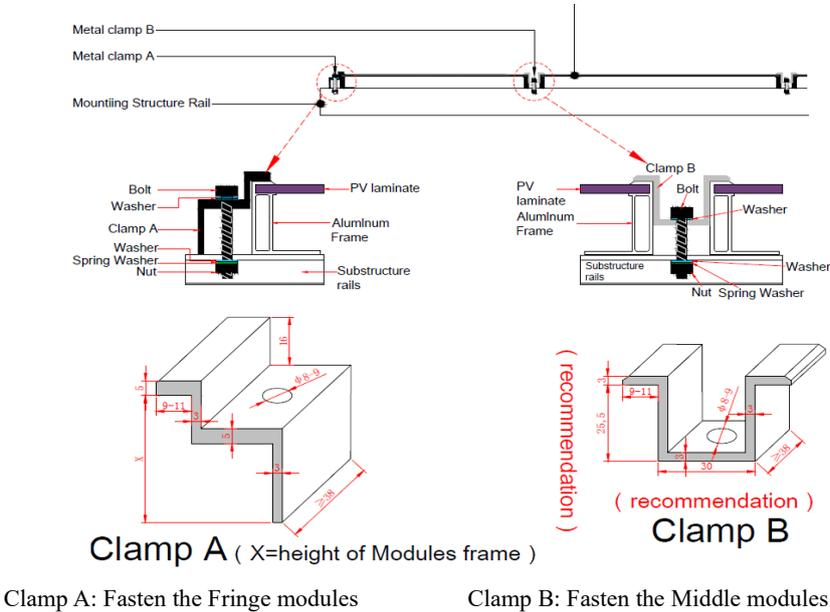

FIG 3 Schematic diagram of module fastened by clamp method
**6.3.3.3** Using at least four clamps to fasten each module, two clamps should be fastened on each long side of the module. According to local Environment (depending on wind power and snow loads), additional clamps may be required to ensure modules and PV system to withstand anticipated mechanical pressure. We recommend using the following clamps (as shown in Figure 3), or approved by reputable solar installer or systems integrator.